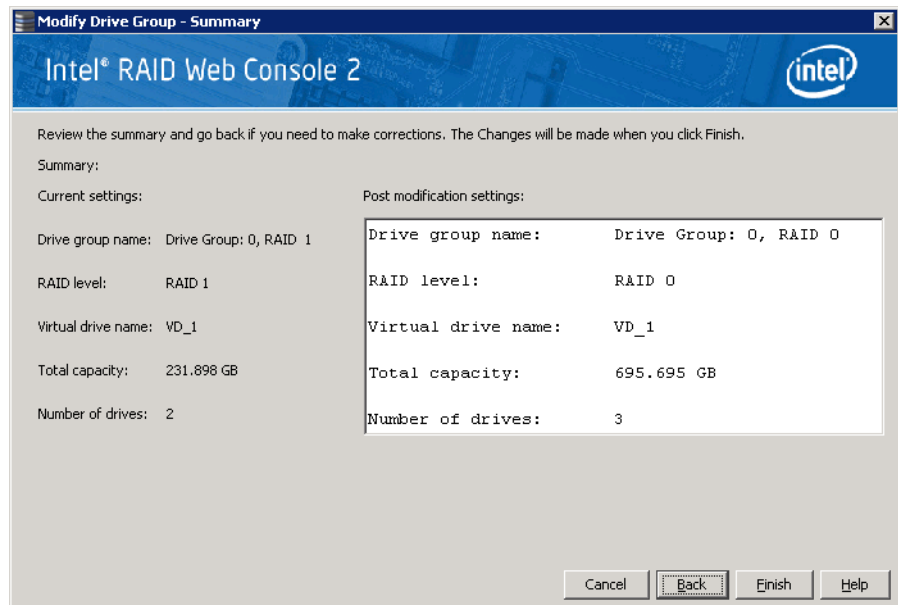

Figure 73. Changing RAID Level
4. When you are finished adding disk drives, click **Next**. The next screen displays, which allows you to review the summary and go back if you need to make corrections as shown in Figure 73.